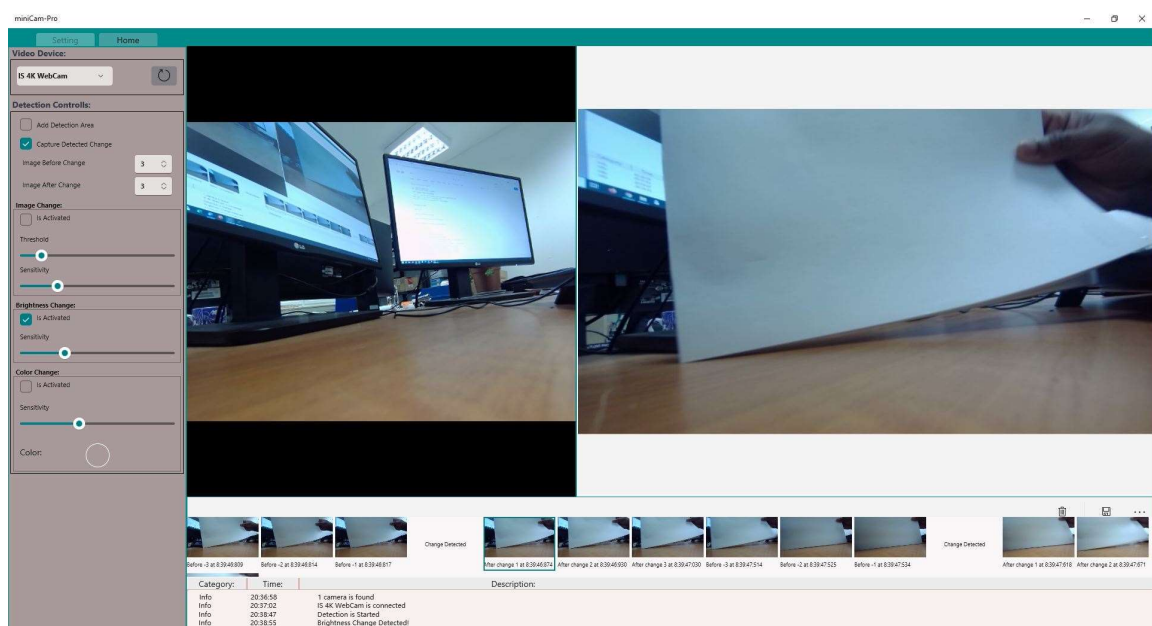

Figure 12: miniCam-Pro brightness change detection for entire image frame
3. You can keep the “Is Activated” option checked and it will keep capturing more changes, as shown in Figure 12. You can select images and save them to your computer or delete them, by selecting the chosen image and clicking the respective Button. If you want to clear the image history just press the Delete Button without selecting an image.